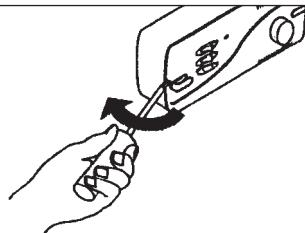

Fig 2a. Removing screw covers
1. Detach the Fascia from the Mounting Frame by removing the screw covers and two screws (Refer to Fig. 2a & b).